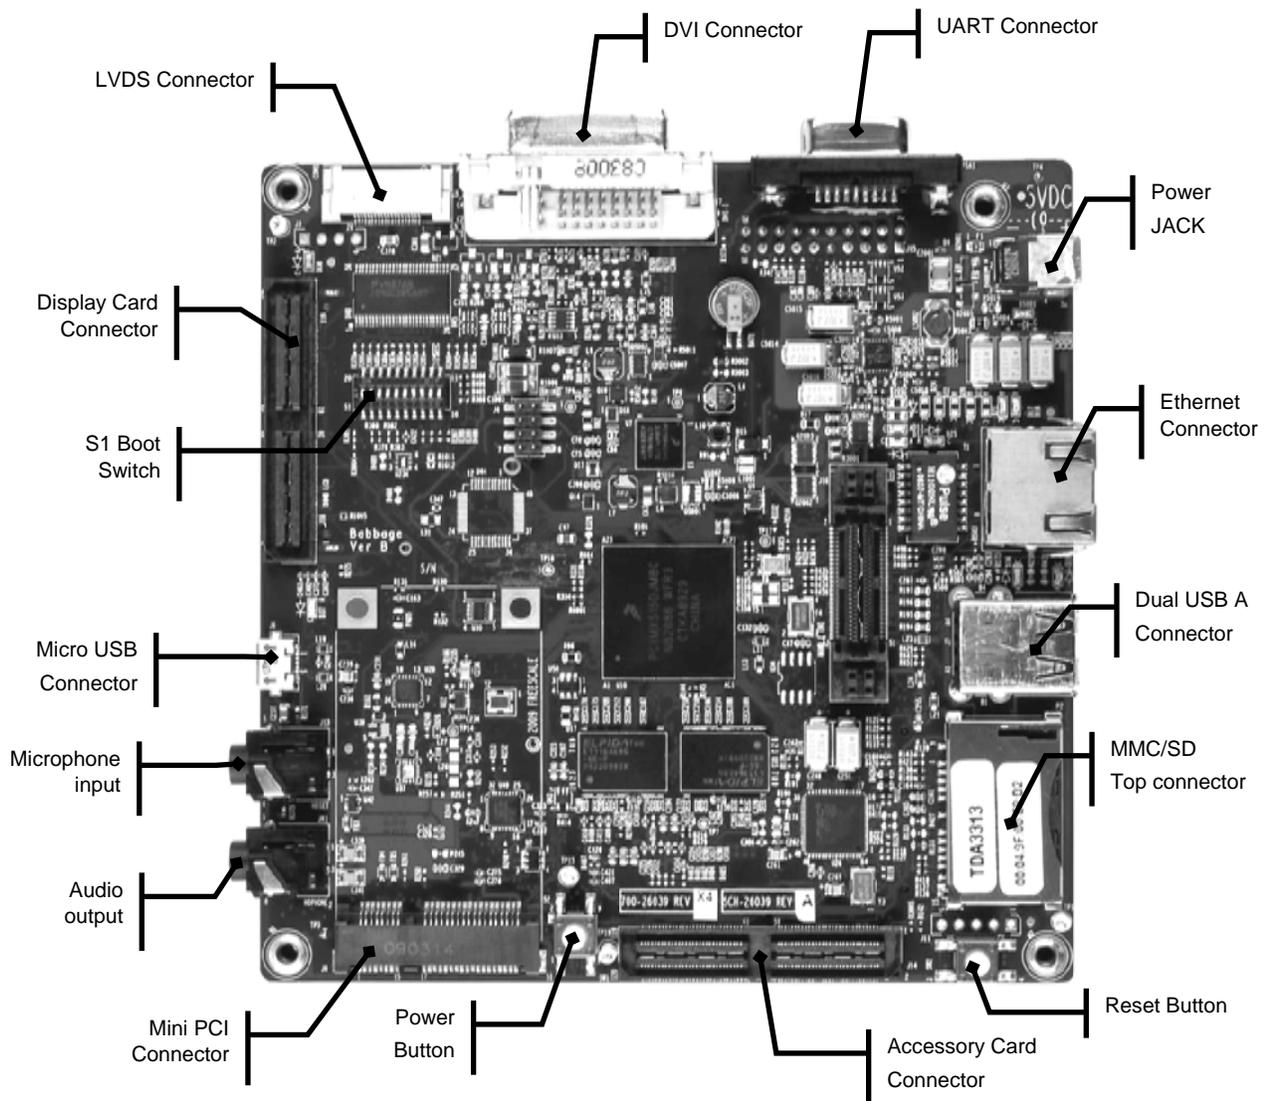
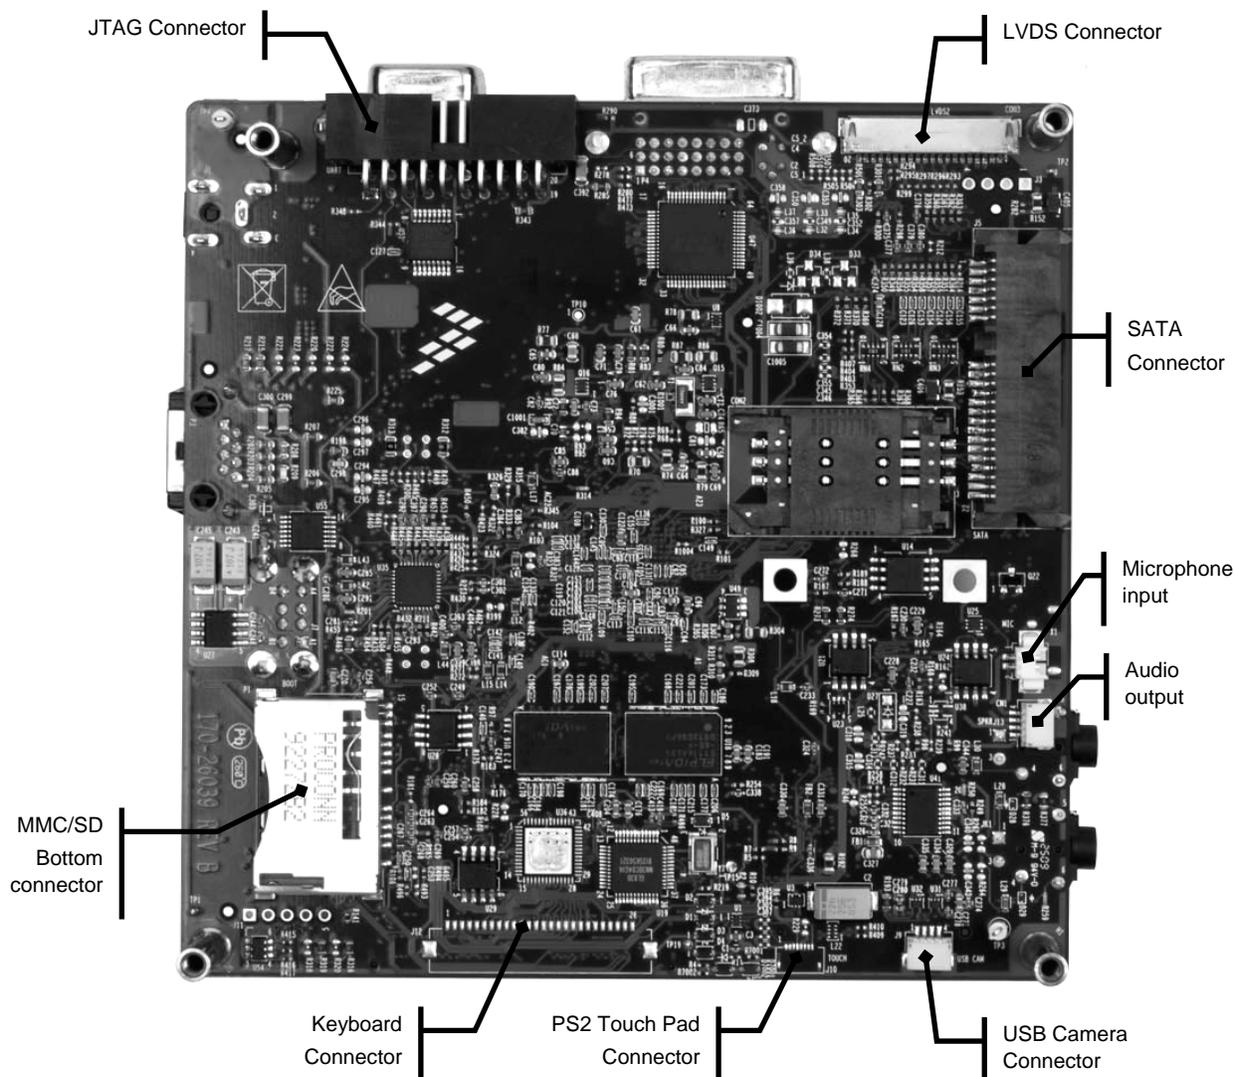

Figure 1-1 Top view of i.MX51 EVK board
Figure 1-2 Bottom view of i.MX51 EVK board
Figure 1-1 illustrates the top of the i.MX51 EVK board and figure 1-2 illustrates the bottom side of the EVK.
This section explains how to connect the input and output devices to the i.MX51 EVK. Refer to Figures 1-1 and 1-2 to locate the referenced connectors.
5. Keep pressed the power switch (see Figure 1-1) until the EVK board powers-up and then release the switch